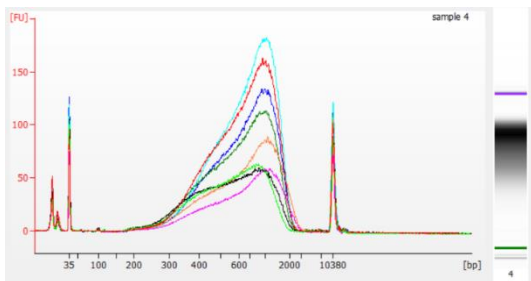

Figure 4. Agilent 2100 Bioanalyzer Image of PCR Products
- 3.9.12 The Agilent 2100 Bioanalyzer system is the preferred method for estimating the size range of the PCR products. Traces should resemble the overall shape of the sample electropherogram shown in Figure 4.